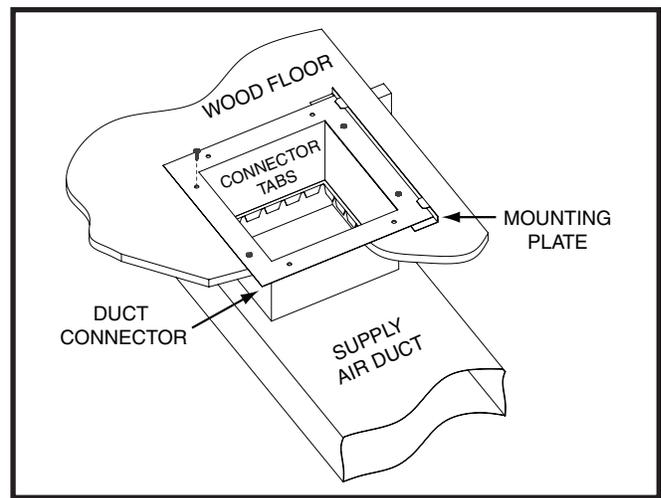

Figure 5. Standard Duct Connector Installed
Duct connectors are recommended for heated air distribution in under-the-floor duct systems. With this system, Appliances may be installed on combustible flooring without a separate sub-base. The Appliance rear mounting plate (Figure 5 (page 7)) supplied with the duct connectors is recommended for use with this type of installation.
2. Mark the cut-out area on the supply air duct by tracing around the connector tabs of the duct connector. See Figure 5 (page 7).
5. Install the optional mounting plate (Figure 5) under the back side of the duct connector. Align the screw holes in both components.